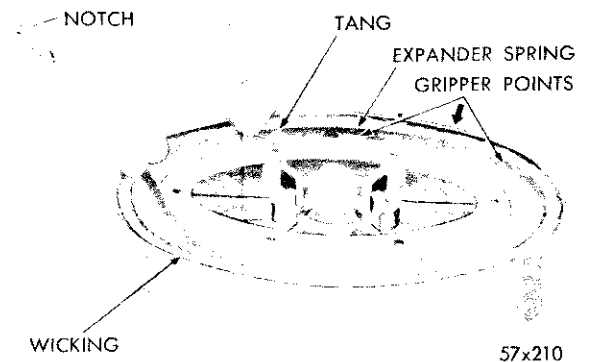

Fig. 63—Installing the Expander Spring
(4) Install the expander spring inside the wicking, with the gripper points next to the wicking, as shown in Figure 63. Engage the notch at the loop end of spring with the hook at the opposite end.
(5) Install the expander spring retainer plate,